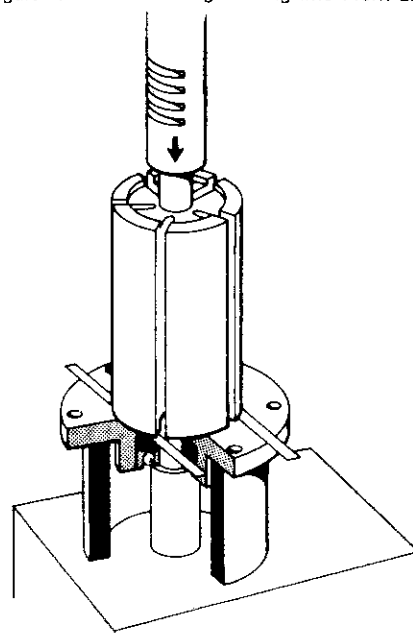

Figure No. 4.3 - Pressing Rotor Assembly into Front Endplate
6. Heat each endplate and bearing assembly to approximately 350 degrees F (177 degrees C) for 1/2 hour to expand the inner race of the endplate bearing. Support each endplate assembly as shown in Figure No. 4.3 and place .002" (.05mm) feeler gauges on the endplates. Apply a small amount of #35 Loctite retaining compound to the rotor shaft bearing diameter. Press the rotor assembly into the upper endplate bearing until it bottoms against feelers and hold in position for approximately 30 seconds while the bearing cools to grip the rotor shaft.